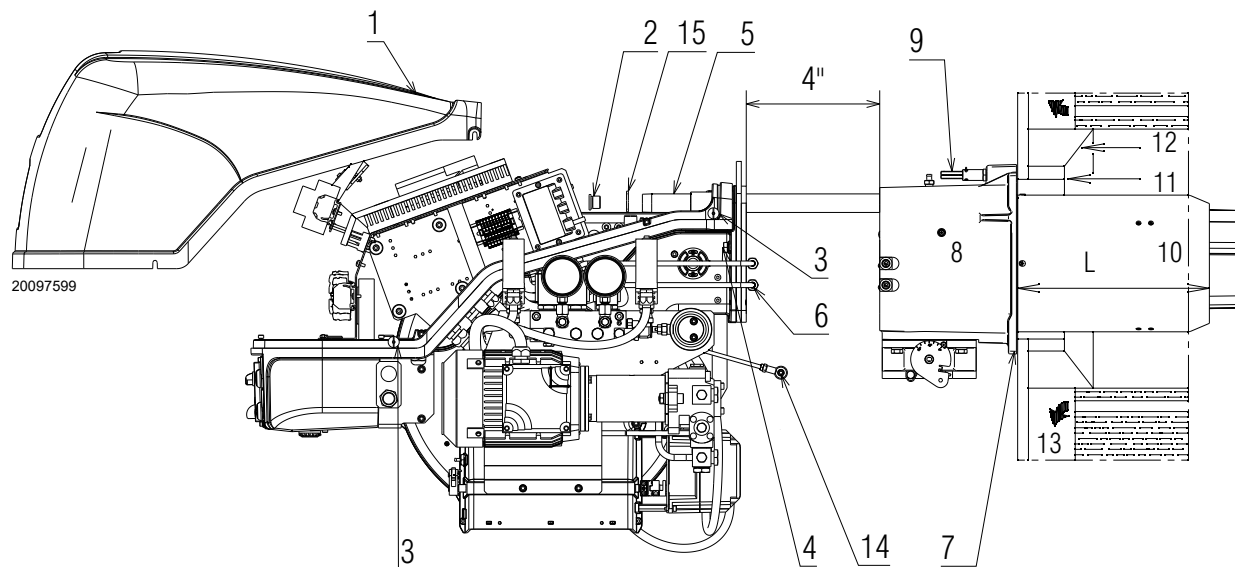
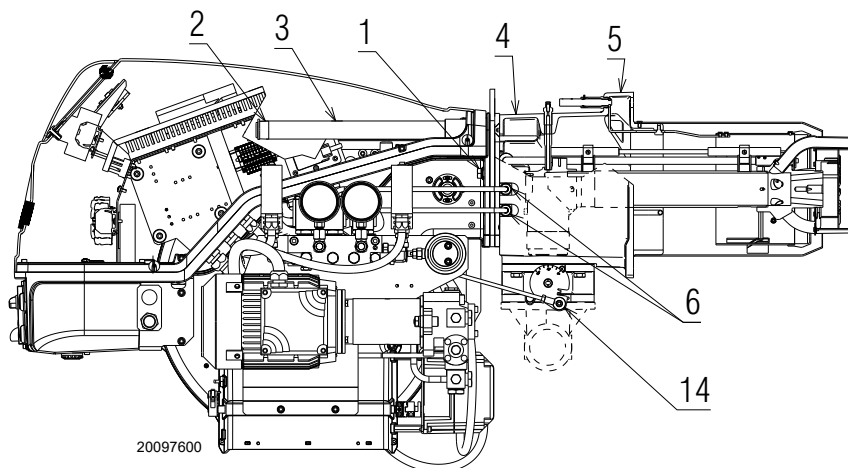

Fig. 12
Fig. 24
For boilers having a water-cooled front, the insulation 11)-12)(Fig. 12, page 20) is not required unless it is required by the boiler manufacturer.
Detach the combustion head from the burner, (Fig. 12):
- Refit the burner to the slide bars 3)(Fig. 24) at approximately 4" from the sleeve 4) - burner positioned as shown in Fig. 12, page 20 - insert the ignition electrode cables;
- slide the burner up to the sleeve so that it is positioned as shown in Fig. 24;
- refit screws 2)(Fig. 24) on slide bars 3) including the safety plate 15)(Fig. 12, page 20);
- connect the oil pipes again by screwing on the two connectors 6)(Fig. 12, page 20).